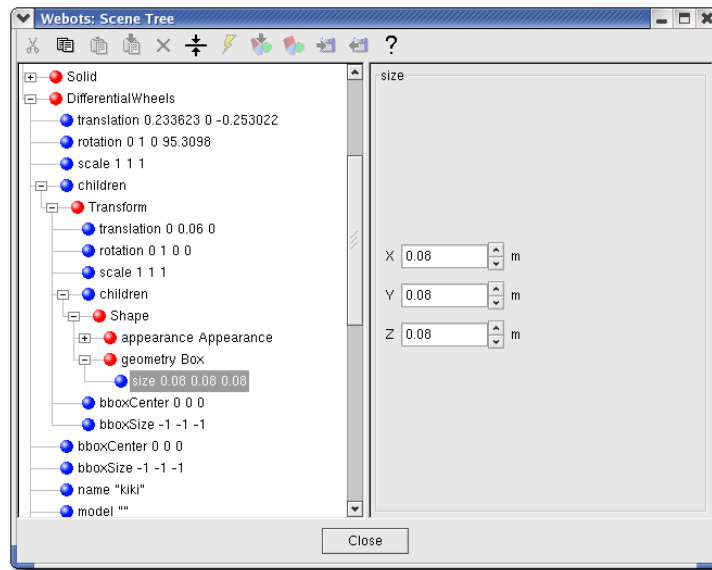

Figure 4.6: Body of the *kiki* robot: a box
4. In the children field, first introduce a Transform node that will contain a shape with a box. In the new children field, **Insert after** a Shape node. Choose a color, as described previously. In the geometry field, **insert** a Box node. Set the size of the box to [0.08 0.08 0.08]. Now set the translation values to [0 0.06 0] in the Transform node (see figure 4.6)